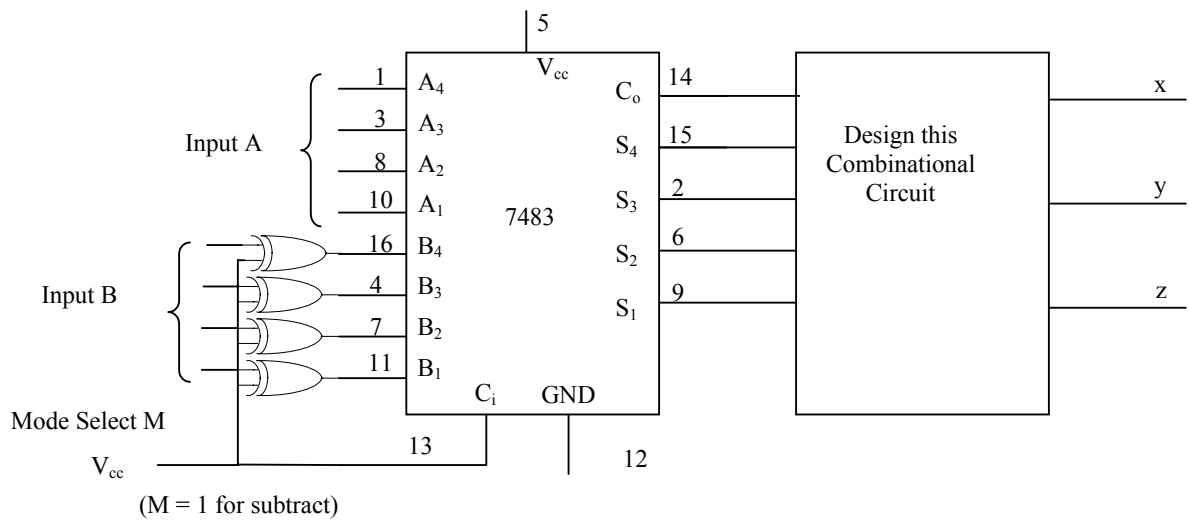

Fig.4 A magnitude comparator using a subtractor
- f) A magnitude comparator can be constructed by using a subtractor as in Fig 2. and an additional combinational circuit. This is done with a combinational circuit which has 5 inputs $S_1, S_2, S_3, S_4,$ and C_o , and three outputs X, Y, Z see Fig.4